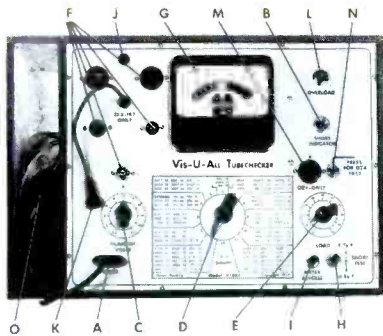

Fig. 9. Set-up data for most commonly-used tubes is printed on the front panel.
In order to familiarize you with the Model V1001, let's take a closer look at its panel (see Fig. 9). To check a tube with the instrument, one end of the AC cheater cord (A) is plugged into an AC outlet and the other into the interlock receptacle on the front panel. There is no on-off switch — so as I plugged the cord in, the short indicator (B) began to glow. Incidentally, the manufacturer states that continuous operation will not harm the unit.
Other items pointed out in Fig. 9 are: METER REVERSE button (I) used on certain tubes for proper meter deflection; test-lead connector (J) for all grid- and plate-cap tubes; test lead and special jack (K) for 1X2 and 1B3 plate connections only; overload indicator (L) which is a #47 pilot lamp; a special octal socket (M) and test button (N) for OZ4 tubes only; and a CRT adapter cable (O) for testing picture tubes.